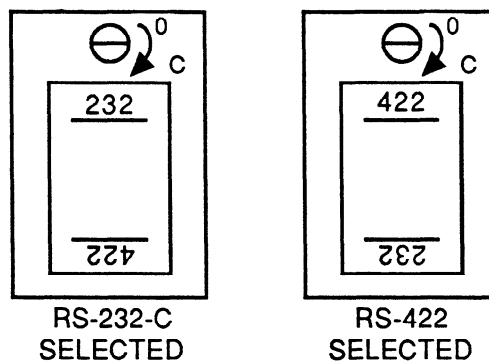

Figure 3.2 RS-232/RS-422 HYBRID DIP PACKAGE (FOR PORT 2)
- Check the RS-232/RS-422 DIP package orientation -- for Port 2 only. (Reference Figure 3.2)
The RS-422/RS-232 hybrid DIP package affects the operation of port 2 only. Verify the position of the configuration hybrid DIP package located between ports J1 and J2. It is marked "232" on one end and "422" on the other end and is mounted in a zero insertion force socket. Use a small screwdriver to turn the screw which releases the hybrid DIP package from the socket. Position the package with the desired interface type (RS-232 or RS-422) closest to port J1. See Figure 3.2 for proper package orientation.